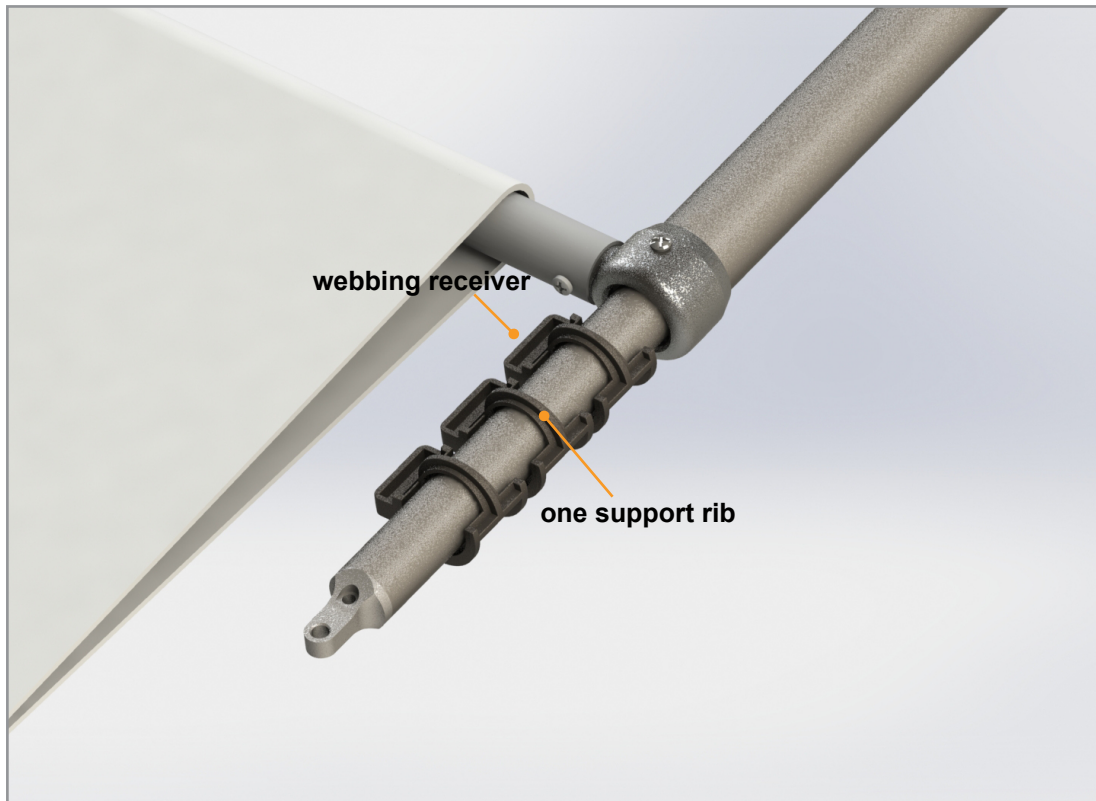

Fig.15
2. Slide three cam locks onto each actuator. Orientation of the cam locks is important (**Fig.15**). The side of the cam lock should be oriented such that one support rib is facing up and the webbing receiver portion of the cam lock should be facing inward, towards the center of the system.